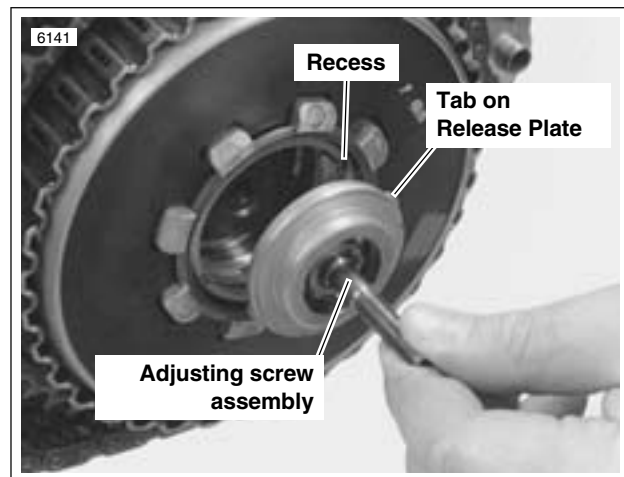
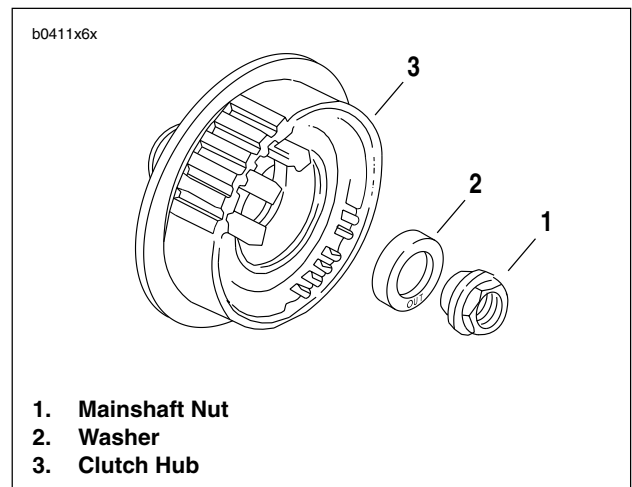

Figure 6-16. Aligning Tabs
Figure 6-22. Mainshaft Nut and Washer
4. Remove mainshaft nut (21) and washer (22).
- a. See Figure 6-16. Align two tabs on perimeter of release plate with corresponding recesses in pressure plate.
See Figure 6-22. Washer (2) must be installed with the word "out" facing the mainshaft nut (1) or transmission may be damaged.
- b. Place washer (2) on mainshaft with the word "out" facing away from clutch hub (3).
- c. Install nut (1) (**left-hand threads**). Tighten to 70-80 ft-lbs (95-109 Nm).